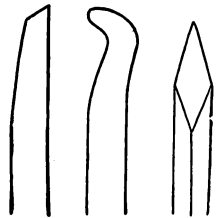

Fig. 4. Fig. 5. Fig. 6.
**Jewel Setting.**—The plate or cock having been set true in the lathe, a hole is drilled so much less in size than the jewel as to allow of a firm seat for it. The hole is then enlarged to the required depth so as to just admit the jewel, and the seat formed exactly to the shape of it by a tool like Fig. 4, the nose of which is left either flat or curved, according to the contour of the stone. The jewel may be shellaced to the end of a piece of wire for trying it in. A groove is turned round the hole in the plate, to leave a little metal to be rubbed over the stone. The stone is then pressed into its seat with a finely pointed peg, and the brass rubbed carefully over it. This is done with a burnisher shaped preferably like Fig. 5, nicely rounded and polished on a leather buff. While using the burnisher it is occasionally put to the tip of the tongue or drawn over the palm of the hand, for if it is perfectly dry it is apt to tear the brass. If the burnishing is cleanly done with a well-polished tool, a little red stuff on a peg will make a nice finish. The plate or cock is then reversed in the lathe, and the metal turned back at an angle, or stripped as it is called. For this purpose a very long-faced graver like Fig. 6 is used. After whetting this graver it is polished with as much care as the finest piece of steel work would be, for on the degree of polish of the graver depends the brilliancy of the stripping.